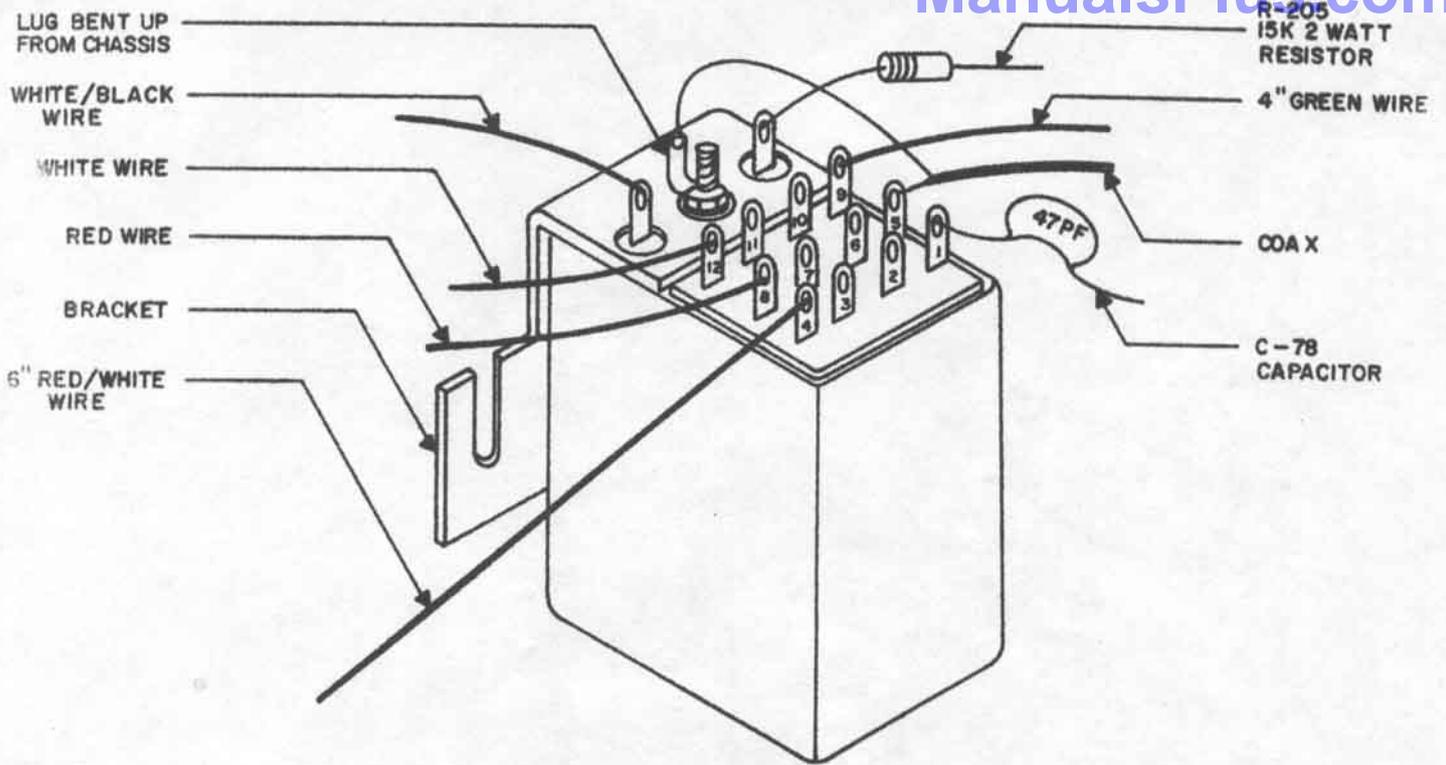

FIGURE 3. PICTORIAL WIRING DIAGRAM, K201 RELAY HQ-180 SERIES
- If in any doubt, check figures 3 and 4, or schematic diagram figure 5.